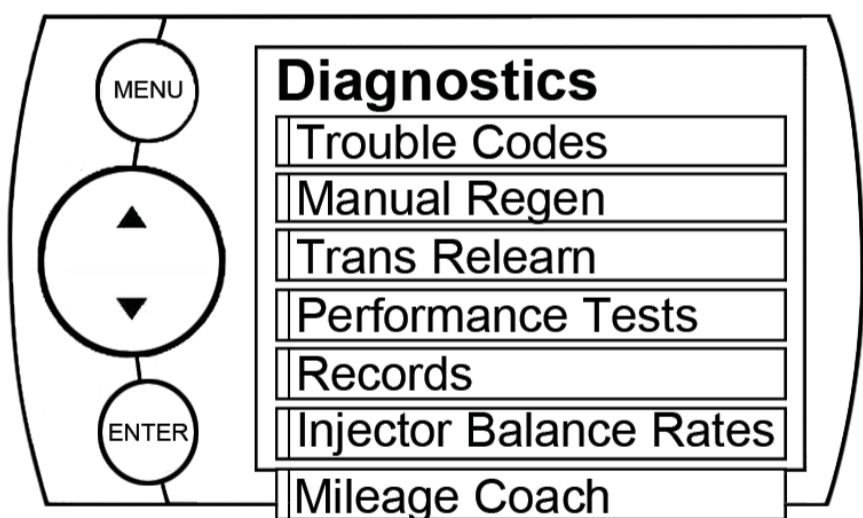

Figure 7
***NOTE:** Not all options in Figure 7 will be available. The availability of these options will vary due to the product you purchased and your vehicle.*
1. Selecting the **Manual Regen** option in the **Diagnostics** menu. (Figure 7)